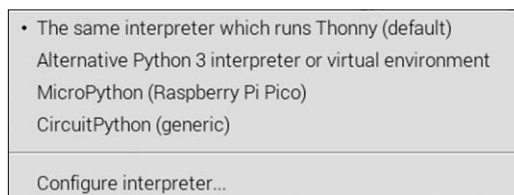

Figure 2.9: Select Raspberry Pi Pico.
- Click to select **MicroPython (Raspberry Pi Pico)** as shown in Figure 2.9.